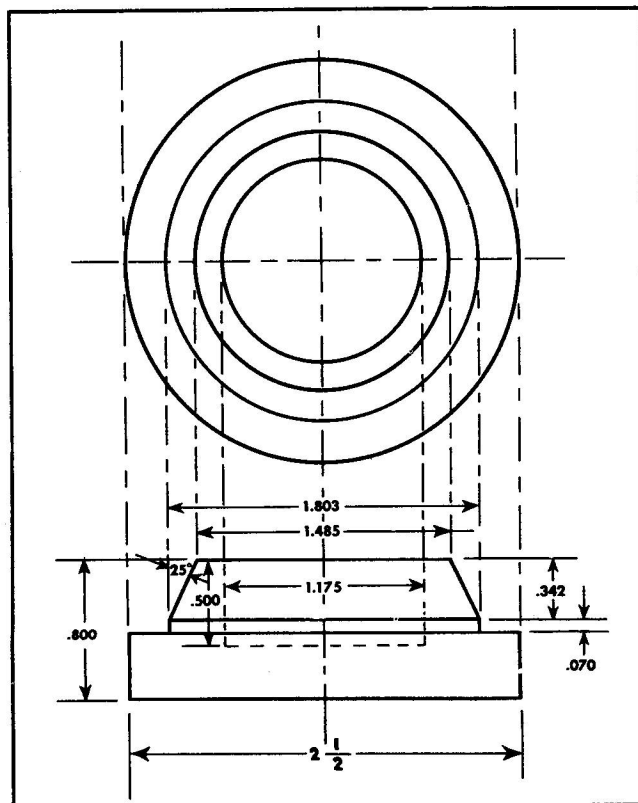

Figure 34 — Card and Float Assembly Jig
(1) Using a fixture such as illustrated in figure 34, place the float in the fixture recess and the card on
c. CARD AND FLOAT ASSEMBLY FIXTURE.—(See figure 34.) The card and float assembly fixture is used to hold the assembly while removing and replacing the pivot, disassembling and reassembling the float to the card and checking the card accuracy and trueness (flatness on bottom).